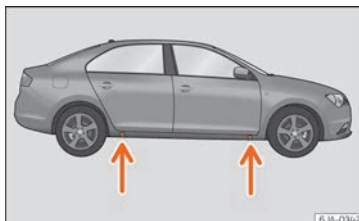

Fig. 64 Wheel change: support points of the jack.
- Find the support point on the strut (sunken area) closest to the wheel to be changed »» Fig. 64.